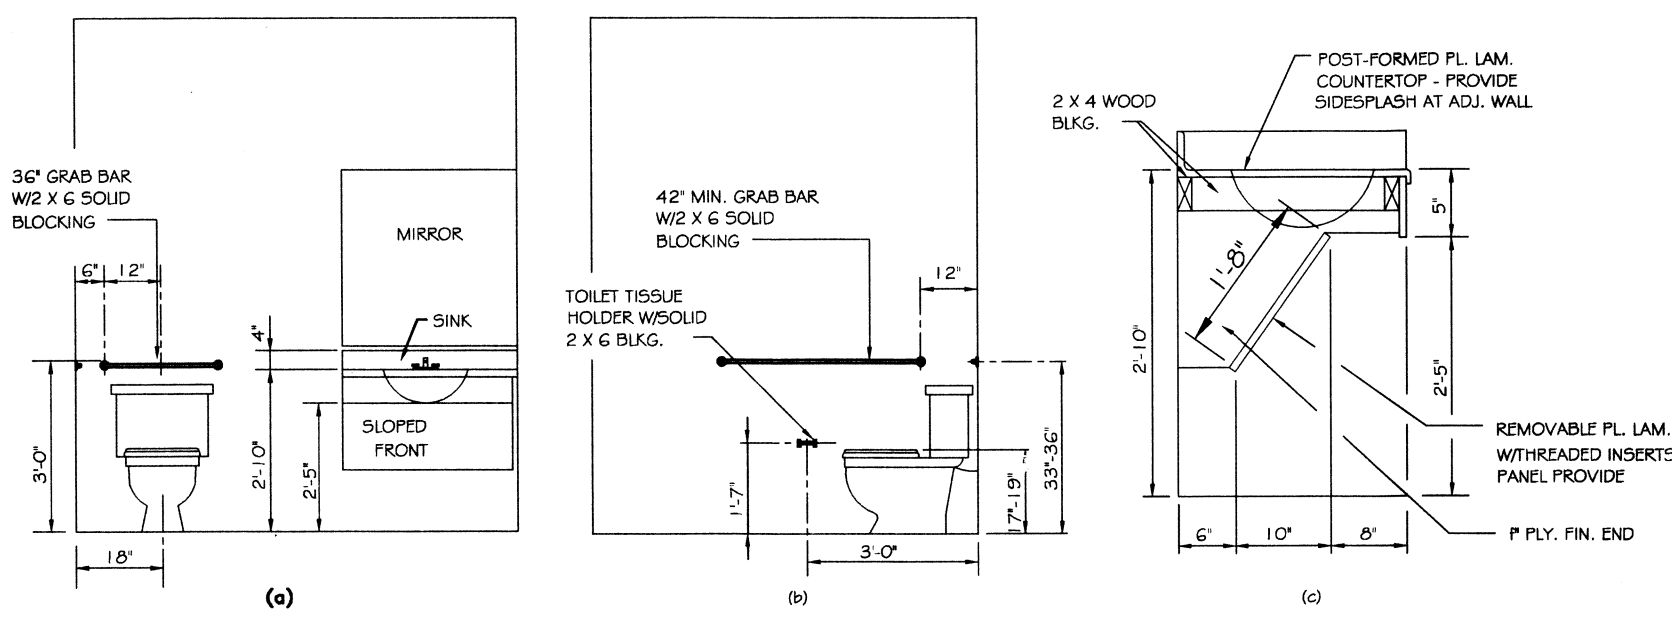

FIG. 31
- 4.16.3 HEIGHT THE HEIGHT OF WATER CLOSETS SHALL BE 17" TO 19" (430mm TO 485mm), MEASURED TO THE TOP OF THE TOILET SEAT. SEATS SHALL NOT BE SPRUNG TO RETURN TO A LIFTED POSITION (SEE FIG. 31).
- 4.16.4 GRAB BARS GRAB BARS FOR WATER CLOSETS NOT LOCATED IN STALLS SHALL COMPLY WITH 4.26 AND FIG. 31. THE GRAB BAR BEHIND THE WATER CLOSET SHALL BE 36" (915mm) MINIMUM.
- 4.16.6 DISPENSERS TOILET PAPER DISPENSERS SHALL BE INSTALLED WITHIN REACH AS SHOWN IN FIG. 31. DISPENSERS THAT CONTROL, DELIVER, OR THAT DO NOT PERMIT CONTINUOUS PAPER FLOW, SHALL NOT BE USED.
- 4.17.6 GRAB BARS GRAB BARS MAY BE MOUNTED WITH ANY DESIRED METHOD AS LONG AS THEY HAVE A GRIPPING SURFACE AT THE LOCATIONS SHOWN IN FIG. 31 AND DO NOT OBSTRUCT THE REQUIRED CLEAR FLOOR AREA. GRAB BARS SHALL COMPLY WITH 4.26.
- 4.19.2 HEIGHT & CLEARANCES LAVATORIES SHALL BE MOUNTED WITH THE RIM OR COUNTER SURFACE NO HIGHER THAN 34" (865mm) ABOVE THE FINISH FLOOR. PROVIDE A CLEARANCE OF AT LEAST 29" (735mm) ABOVE THE FINISH FLOOR TO THE BOTTOM OF THE APRON (SEE FIG. 31).
- 4.19.6 MIRRORS MIRRORS SHALL BE MOUNTED WITH THE BOTTOM EDGE OF THE REFLECTING SURFACE NO HIGHER THAN 40" (1015mm) ABOVE THE FINISH FLOOR (SEE FIG. 31).
- 4.24.2 HEIGHT SINKS SHALL BE MOUNTED WITH THE COUNTER OR RIM NO HIGHER THAN 34" (865mm) FROM THE FINISHED FLOOR (SEE FIG. 31).